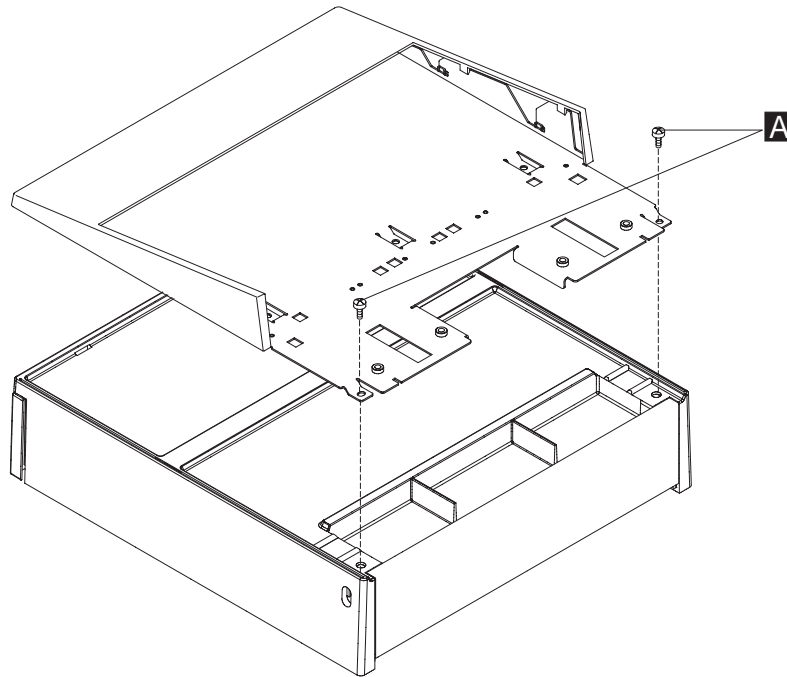

Figure 32. Attaching the integration tray to cash drawer
- b. Attach the cash drawer integration tray to the cash drawer by tightening two M6x8 screws **A** at the rear of tray, as shown in Figure 32.